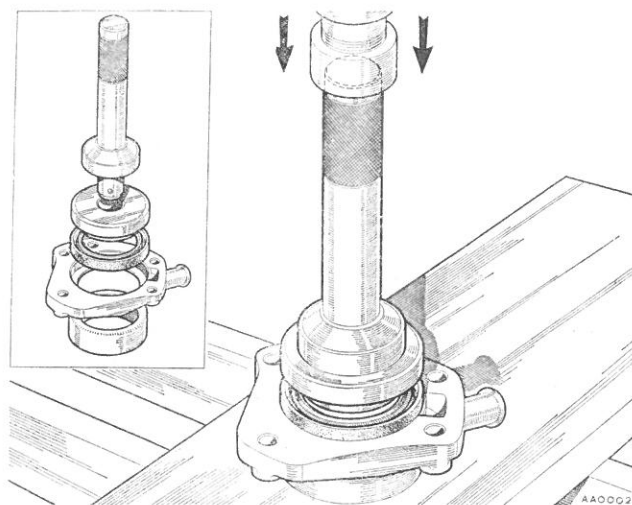

Fig. Aa.11
- Check the main oil seals and renew if necessary. If it is necessary to renew the converter housing oil seal this operation is detailed in Section Aa.15. To renew the converter output gear oil seal, remove the rear case assembly and carefully remove the seal. Lubricate the new seal and press into the casing, using Service tools 18G 134 and 18G 134 CN (Fig. Aa.11).●